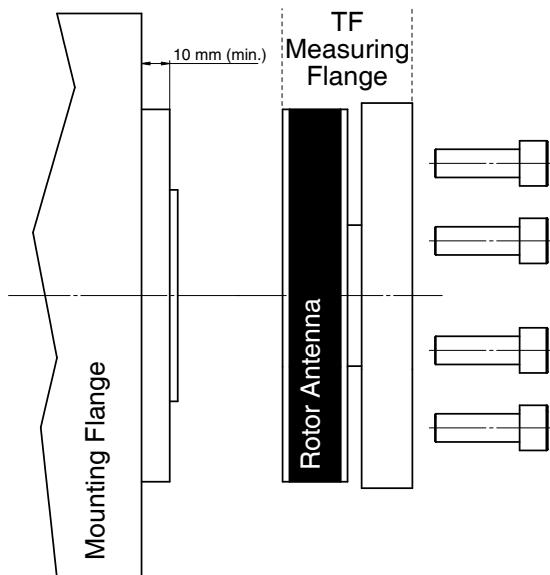

Figure 2–7 Measuring Flange Spacing
- Check the lengths of the screws and be sure to avoid any contact between the screws and the opposite part of the measuring flange (see *Figure 2–8 Mounted TF*).